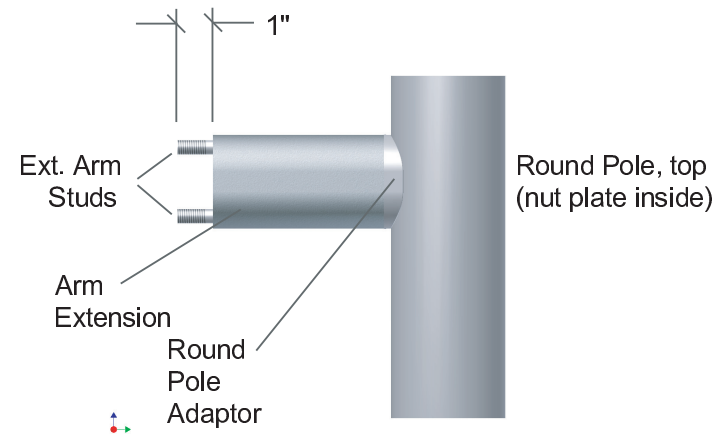

FIGURE 7
D. USING EXTENSION ARM ON ROUND POLE - FIGURE 7
4. With nut plate inside pole, thread extension arm studs thru top and bottom extension arm holes, then thru top and bottom pole adaptor holes, then thru top and bottom pole holes, then into nut plate. See Figure 7.